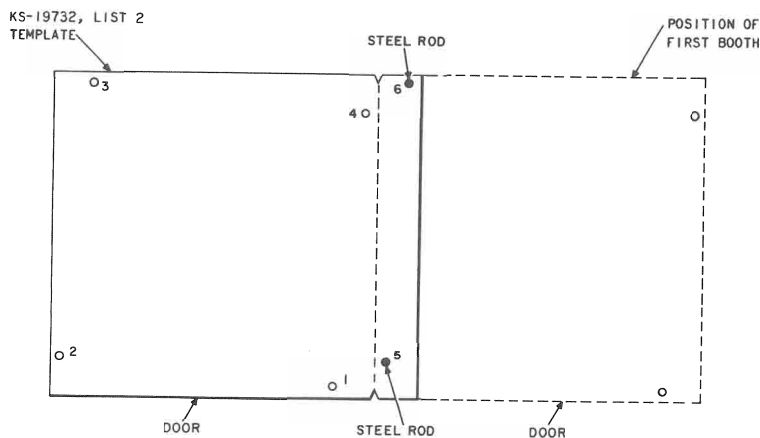

Fig. 13—Right to Left Layout for Drilling Mounting Holes
- (1) Place KS-19732, List 2 template in the position where the right-hand booth will be mounted with the "V" notches on chalk line. Holes 3, 4, and 6 should be to the right.
- (2) Repeat 3.18 (2).
- (3) Move template to the left and align template holes 5 and 6 with previously drilled holes 1 and 2, respectively (Fig. 13). Insert the two steel rods in these holes.
- (4) Repeat 3.18 (4).
(5) If a third booth is to be installed, move template to the left and align template holes 5 and 6 with previously drilled holes 2 and 3, respectively (Fig. 13). Insert the two steel rods in these holes.
- (6) Repeat 3.18 (4).
- (7) If additional booth positions are required, repeat 3.19 (5) and 3.18 (4) respectively.